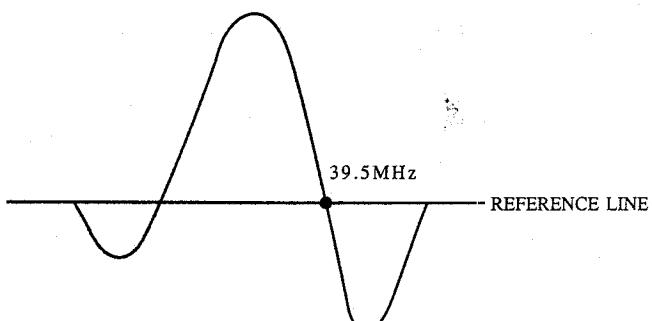

FIG 5
4. Adjust T102 for response as shown in figure 5.